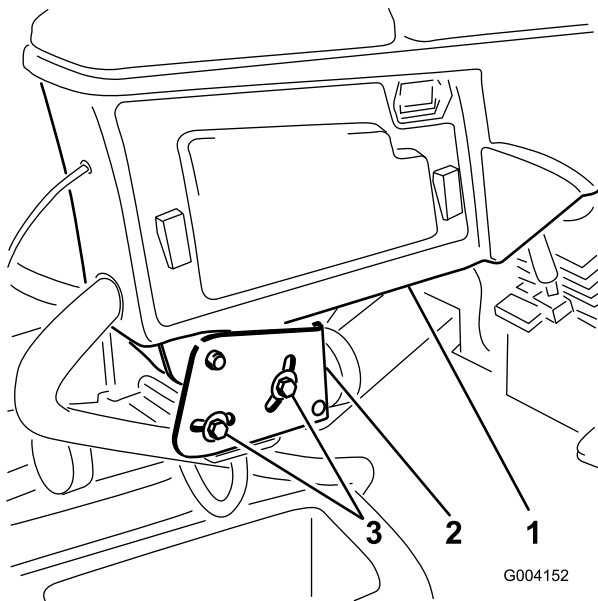

Figure 37
1. Loosen the 2 bolts securing the control arm to the retaining bracket (Figure 37).